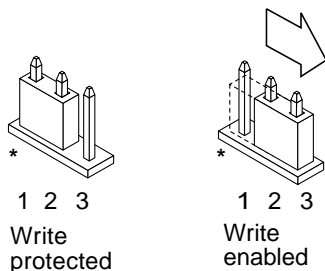

FIGURE 4-4 Setting the Write-Protect/Enable Jumper to the Write-Enable Position
- Set the J2003 write-protect/enable jumper to pins 2 and 3 jumpered (write enabled) using needlenose pliers (see FIGURE 4-4). Pin 1 is noted by an asterisk (*).